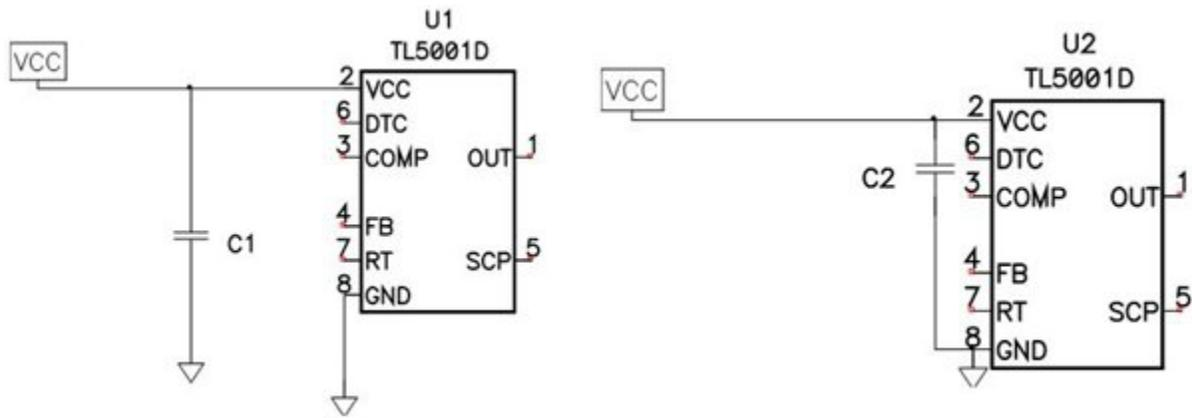

Figure 2. Bypass Capacitor Circuit Connections Indicating Critical Loop Areas
When it comes to bypass capacitors, it's important to minimize the lead inductance by minimizing the bypass loop area, shortening lengths on high di/dt (current slew rate) paths, using ground planes where possible, bringing current paths across capacitor terminals and avoiding multiple layouts. Also, paralleling different capacitor types for reduced impedance across a capacitor band is important, as it can reduce impedance in the 2MHz-to-20MHz frequency range (with typical capacitor values of $0.1\mu F$ to $0.01\mu F$). Drawing the capacitors closer to the integrated circuit (IC) pin also shows layout designers the critical nodes and areas, as illustrated in Figure 2.